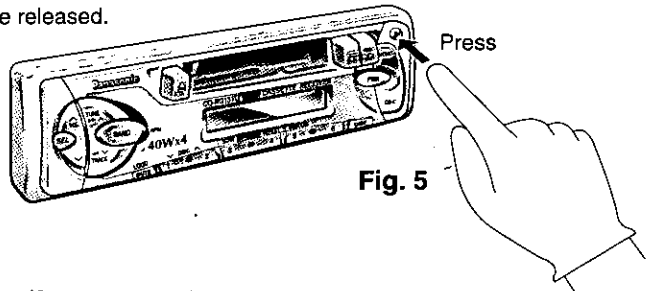

Fig. 5
- ① Switch off the power.
- ② Press the release button (▲) (Fig. 5).